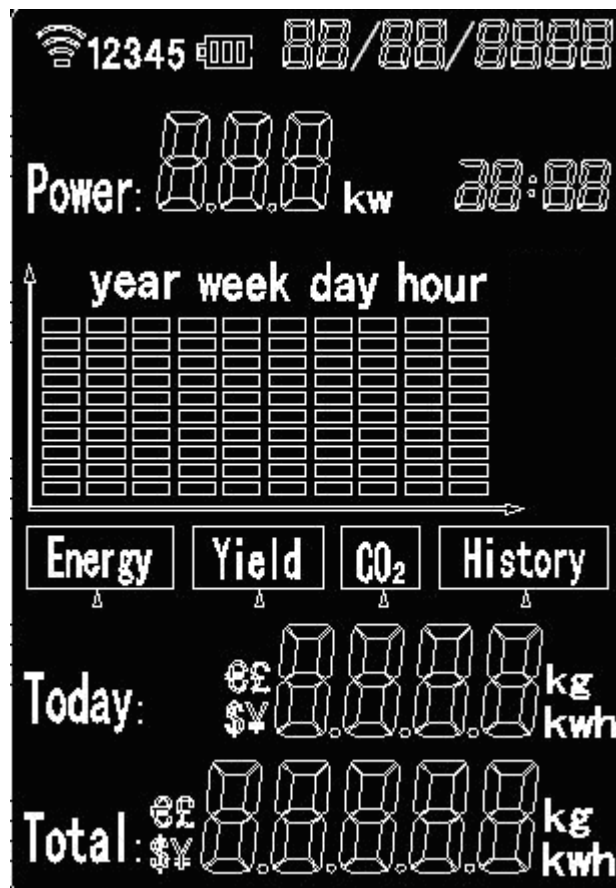

Figure 4
5.1.1 The display of Receiver Unit is shown in Figure 4
5.1.4 Rate setting function: Press the down button (▼) for 5s, then, press the up button (▲) or down button(▼) to switch between currency symbols(¥, \$, £ and €) and function button(■) to confirm. Then set the rate. Press the function (■) and down button (▼), the interface for rate setting will show up as figure 4. Change the data by the up button (▲) or down button(▼), then, press the function button to confirm and quit. The rate means the price of each kwh that is produced by your PV system.